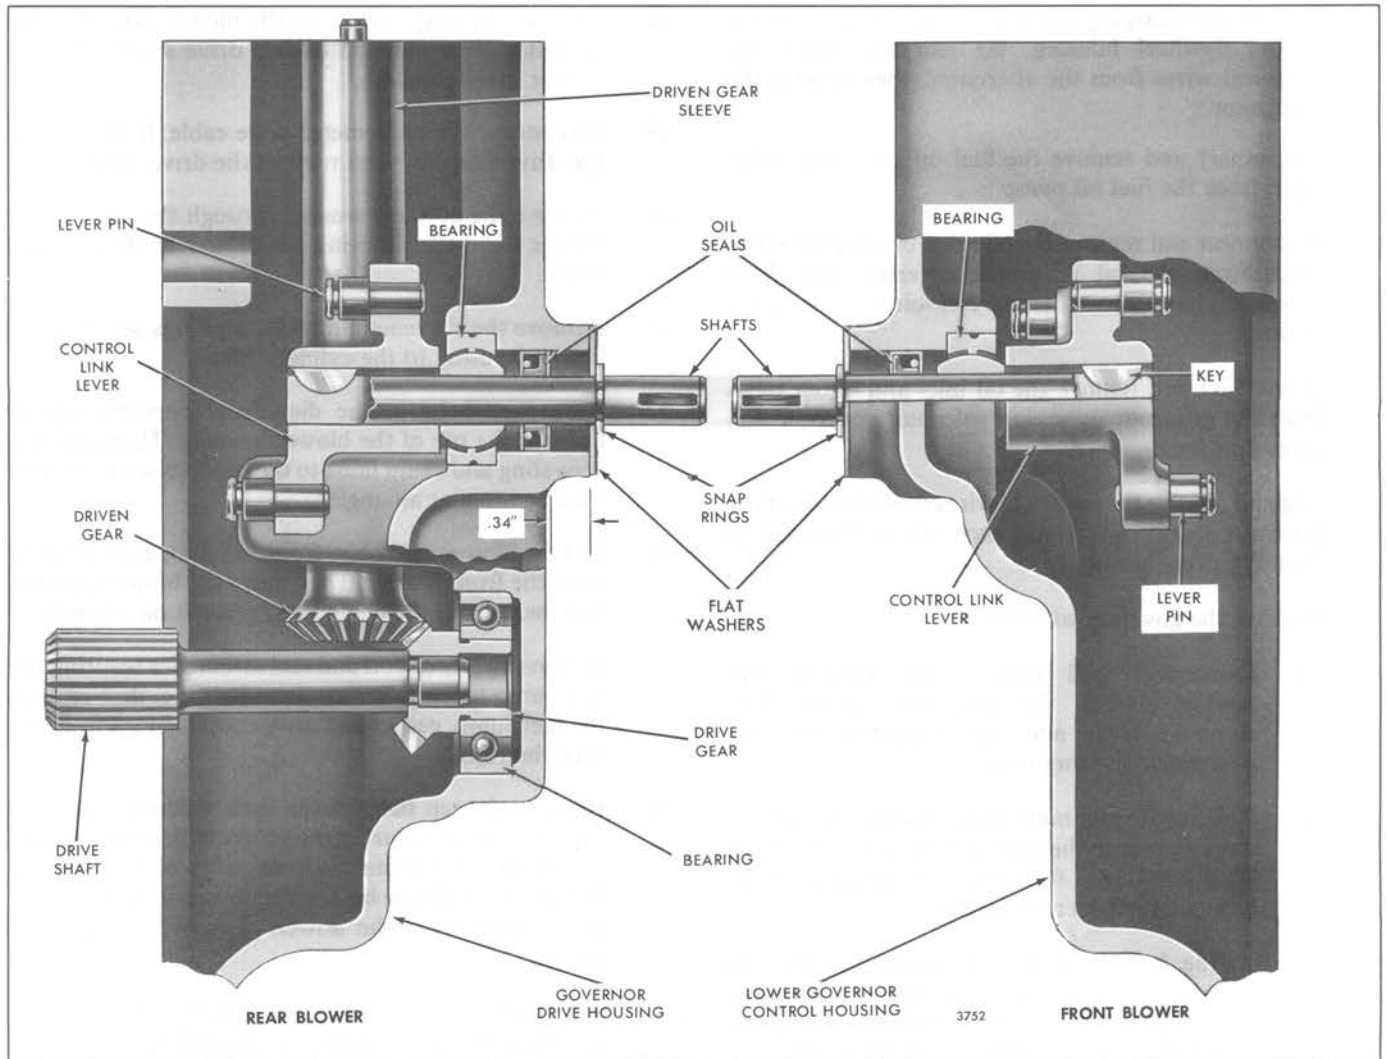

Fig. 10 – Governor Drive and Control Housing Assembly
The governor is driven by one of the blower rotors through a horizontal drive shaft and drive (bevel) gear and an integral driven (bevel) gear (Fig. 10). Each gear is mounted on a ball bearing and is contained in a drive housing that also serves as a front cover for the rear blower.
The shafts of the two control link levers (Fig. 10) are connected together by means of a common lever and cap assembly.
Refer to Figs. 10 and 15 and disassemble the governor drive assembly as follows:
- c. Support the inner face of the drive housing on two wood blocks on the bed of an arbor press. Place the 3/4" round bar stock on top of the oil seal and under the ram of the press, then press the oil seal into the housing until it is .340" below the outer face of the housing (Fig. 10).
Refer to Figs. 10 and 15 for the location of the various parts and assemble the governor drive as outlined below: